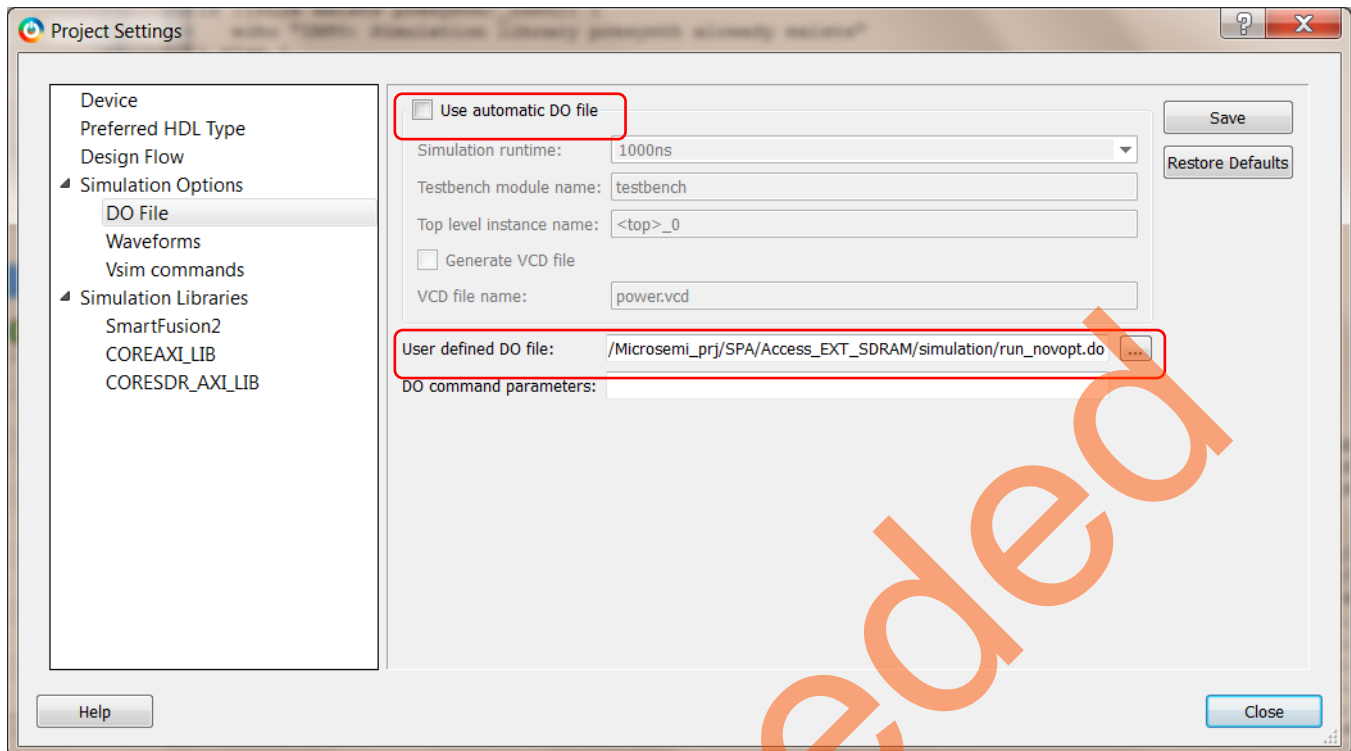

Figure 30. Specifying run_novopt.do for VHDL ModelSim Full Version
- A .do file, **run_novopt.do** that has the switch already set, is provided along with the source files in the tutorial zip files. To use the provided run_novopt.do file, clear the **Use automatic DO file** check box and browse to the location of the provide run_novopt.do file, as shown in Figure 30.